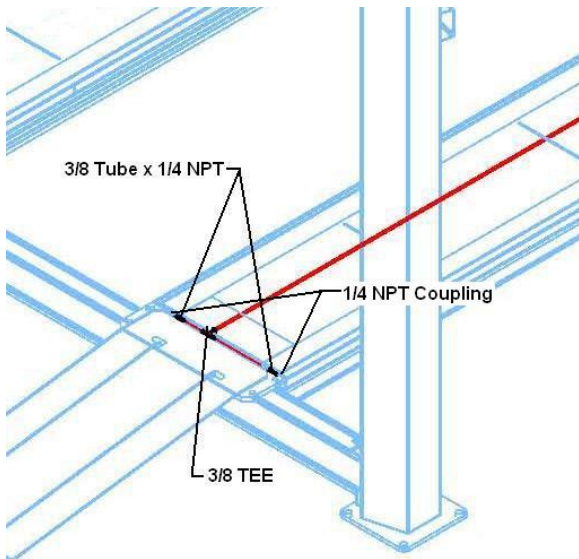

Figure 5
11. Continue to route the 3/8" tube down to the rear of the passenger side runway. Install (1) 3/8" tee with (2) 3/8" tube x 1/4" MNPT push fittings, **Fig 5**. Connect the 3/8" tube x 1/4" MNPT push fittings to the 1/4" NPT couplings.